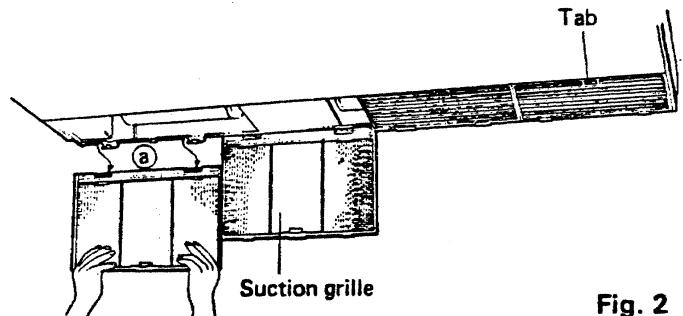

Fig. 2
- 2) Raise the suction grille lightly and shift it in the direction of the arrows **(a)** to remove it from the hooks. Fig. 2